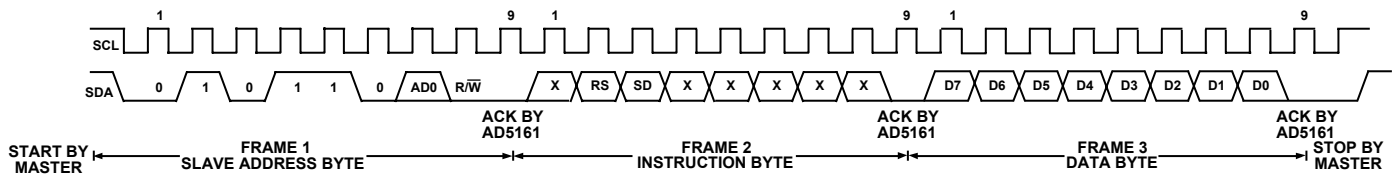
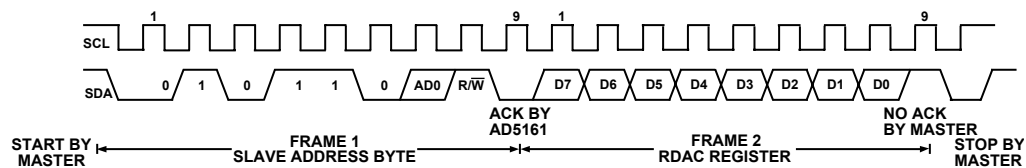

Figure 39. Writing to the RDAC Register
Figure 40. Reading Data from a Previously Selected RDAC Register in Write Mode
1. The master initiates data transfer by establishing a START condition, which is when a high-to-low transition on the SDA line occurs while SCL is high (see Figure 39). The following byte is the slave address byte, which consists of
4. In the read mode, the data byte follows immediately after the acknowledgment of the slave address byte. Data is transmitted over the serial bus in sequences of nine clock pulses (a slight difference with the write mode, where there are eight data bits followed by an acknowledge bit). Similarly, the transitions on the SDA line must occur during the low period of SCL and remain stable during the high period of SCL (see Figure 40).
5. When all data bits have been read or written, a STOP condition is established by the master. A STOP condition is defined as a low-to-high transition on the SDA line while SCL is high. In write mode, the master will pull the SDA line high during the tenth clock pulse to establish a STOP condition (see Figure 39). In read mode, the master will issue a No Acknowledge for the ninth clock pulse (i.e., the SDA line remains high). The master will then bring the SDA line low before the tenth clock pulse which goes high to establish a STOP condition (see Figure 40).